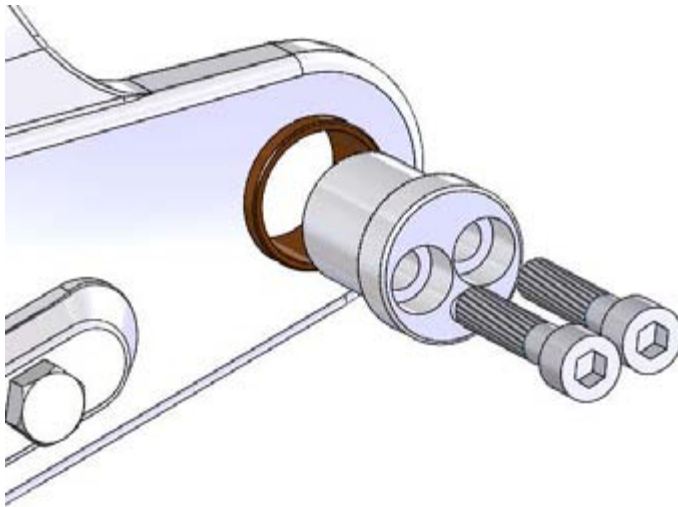

Figure 52. Attaching the joint pegs
3. Tighten the fastening screws (2 on each side) (figure 52).